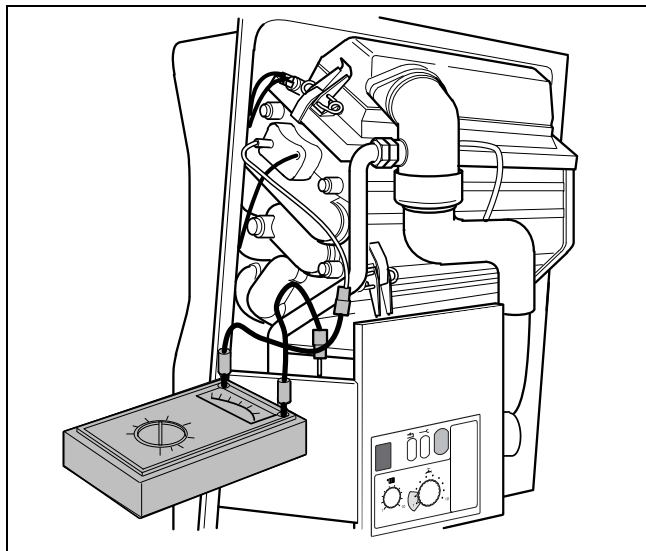

fig. 41 Measuring the ionisation current
- Loosen the plug-and-socket connector of the monitoring cable and connect the measuring device in series (fig. 41).